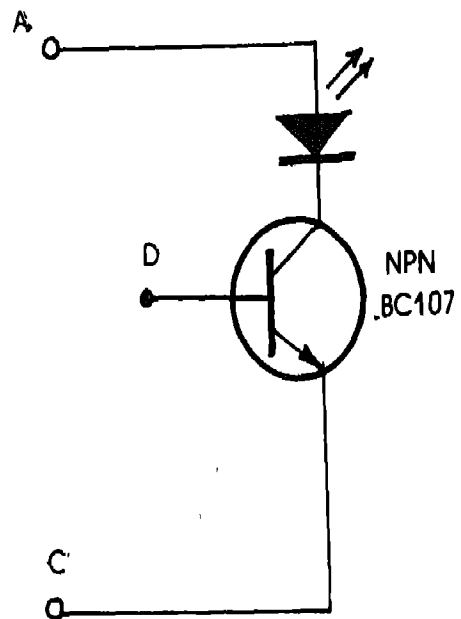

Fig. 10.2
6. Remove the Darlington transistor and connect a simple transistor in place of it as shown in Fig. 10.2.